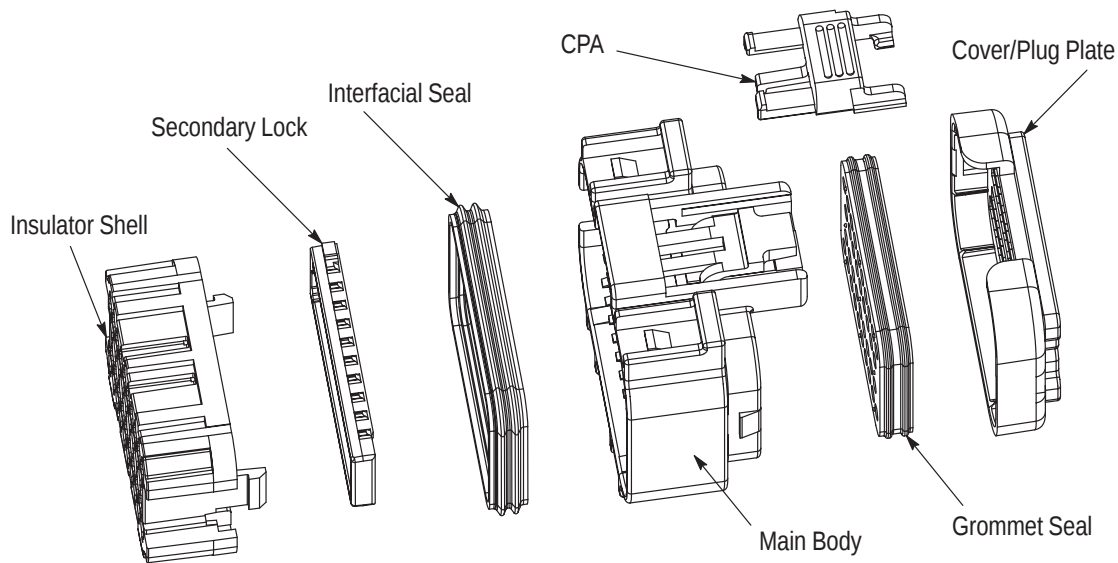

Figure 1
This instruction sheet covers information on Next Generation Controller (NGC) 38-Way Female Connectors. See Figure 1.
2. DESCRIPTION (Figure 1)
- Deleted part number list in Figure 1